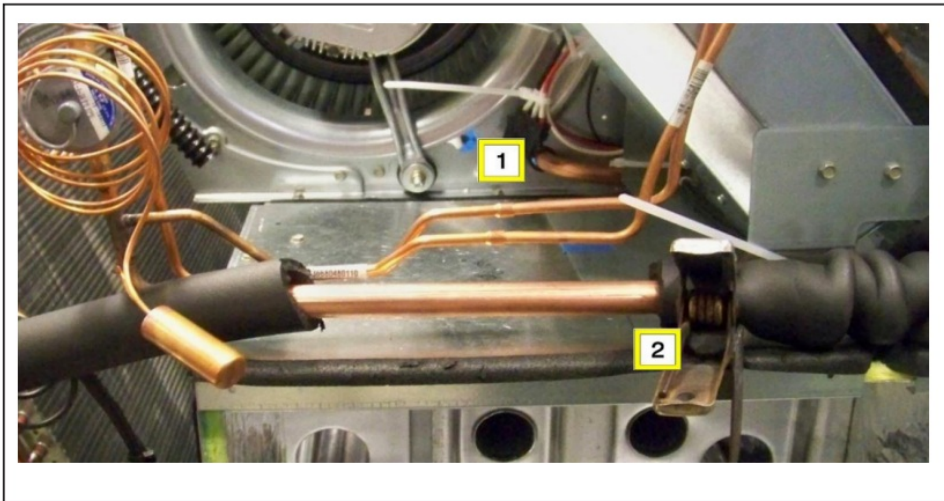

Figure 4 : Manifold Brazing
4. U nbraze connecting tubes between drive and manifold. Refer to Figure 4.